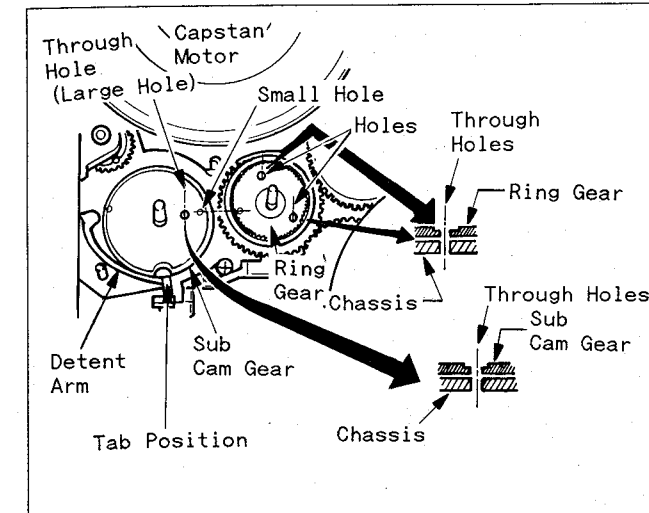

Fig. A3
1. Install the Ring Gear so that the holes on Ring Gear are exactly in line with the holes on chassis as shown Fig. A3.